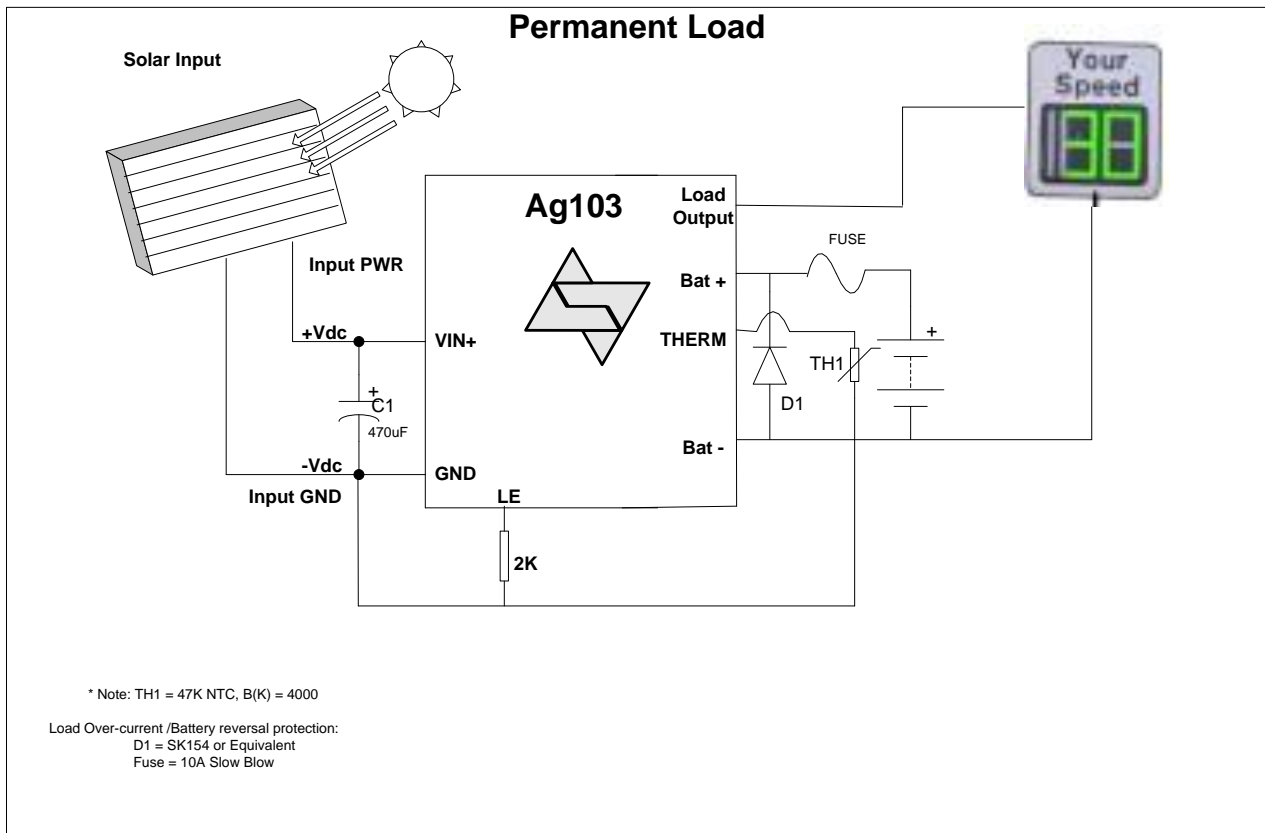
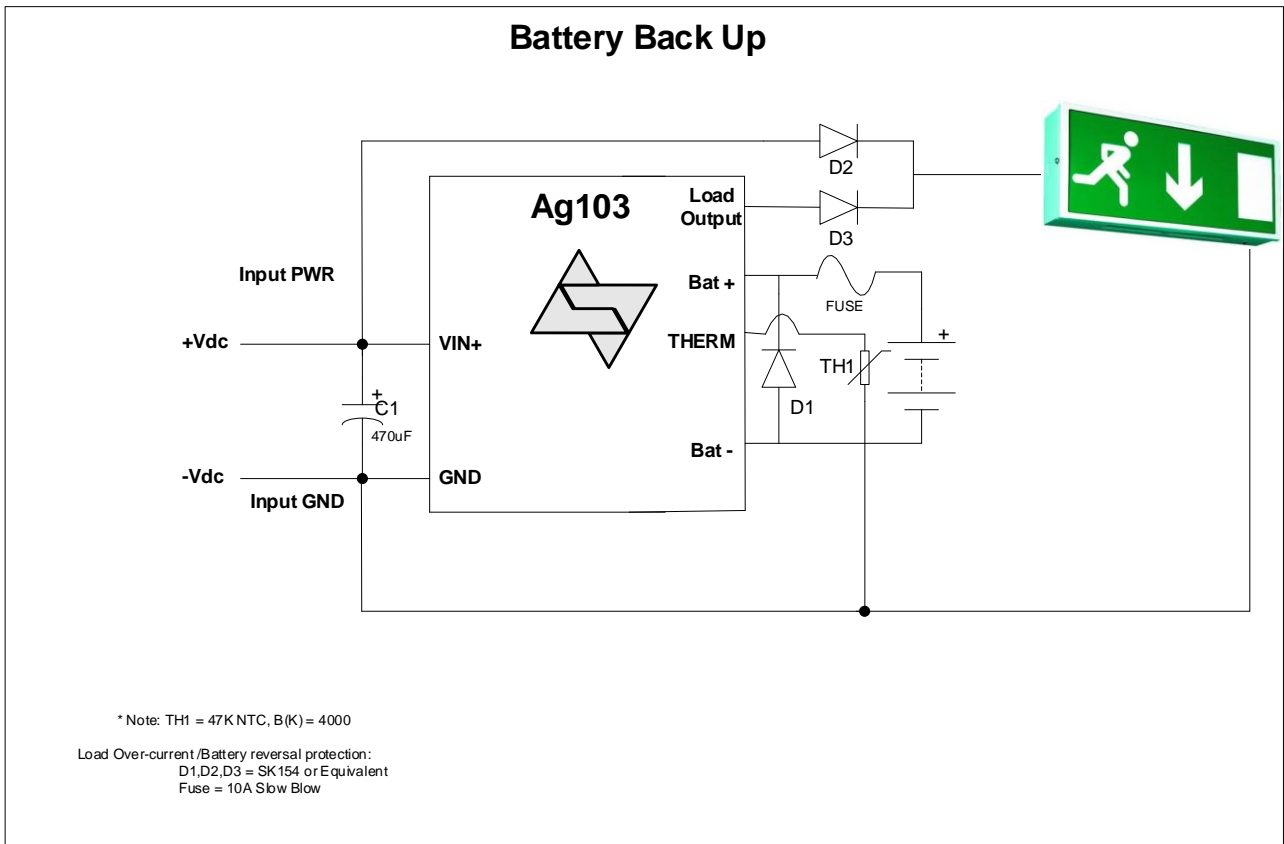

Figure 9: Typical Application - Permanent Load
Figure 10: Typical Application - Battery Back Up
The Ag103 can either connect the battery constantly to the load by connecting a 2k resistor between LE and GND, see Figure 9, or it can be used in a battery back-up mode* where the battery is only connected to the load if the internal μ -controller detects the input has been disconnected, or the panel voltage has dropped below 9V. This mode is selected by leaving the LE open circuit, see Figure 10.
The Ag103 is ideal for solar powered applications such as roadside warnings, parking meters and LED street lighting. Figure 9 shows a very simple method of connecting the Ag103 for this application where the power is permanently connected to the load.
However if your application requires only to be used as a battery back-up system, for example emergency lighting, alarm systems, door access control and UPS, then a typical application is shown in Figure 10.
The Ag103 does not provide battery reversal protection, however Figure 9 shows a simple method of providing this safety feature. This also provides protection for an over-current or short on the Load Output pin.
** Fuse to be fitted for protection against over current on the Load output pin. (see Figure 9)